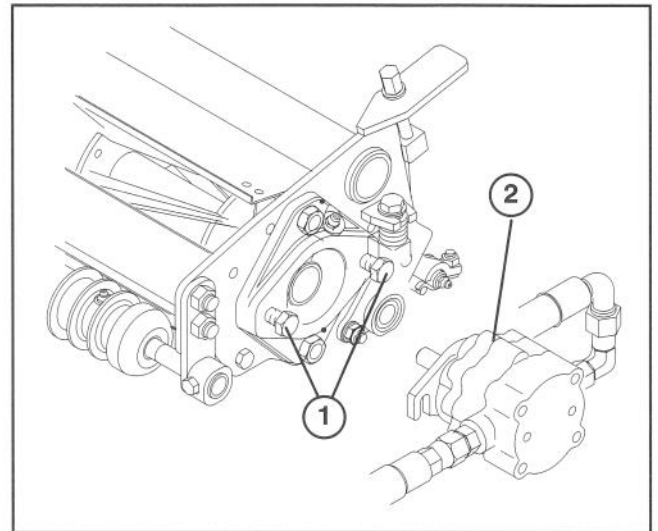

Figure 8
4. Assemble the mounting capscrews for the reel drive motor to each cutting unit. Leave approximately 1/2 in. of threads exposed on each mounting capscrew (Fig. 8).
7. Coat the spline shaft of the motor with clean grease and install the motor by rotating the motor clockwise so the motor flanges clear the studs. Rotate the motor counter-clockwise until the flanges are encircling the studs and tighten the mounting capscrews (Fig. 8).